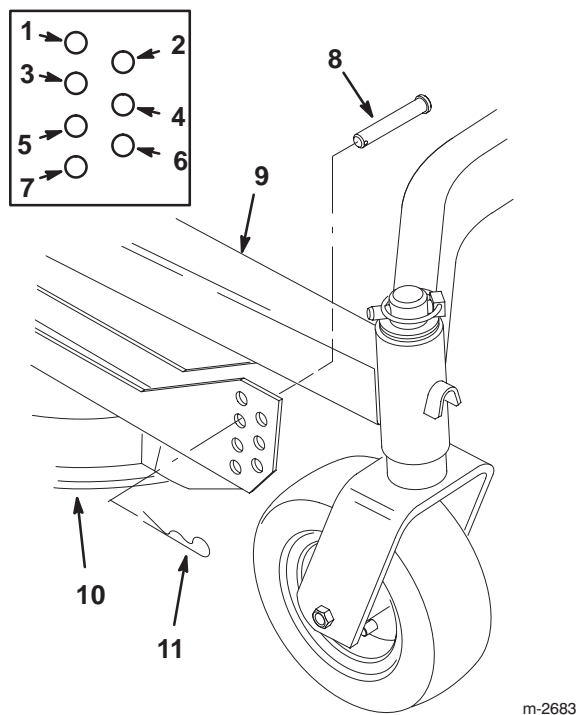

Figure 4
2. Mount the cutting deck to the carrier frame with 4 clevis pins and hairpin cottes (Fig. 4).